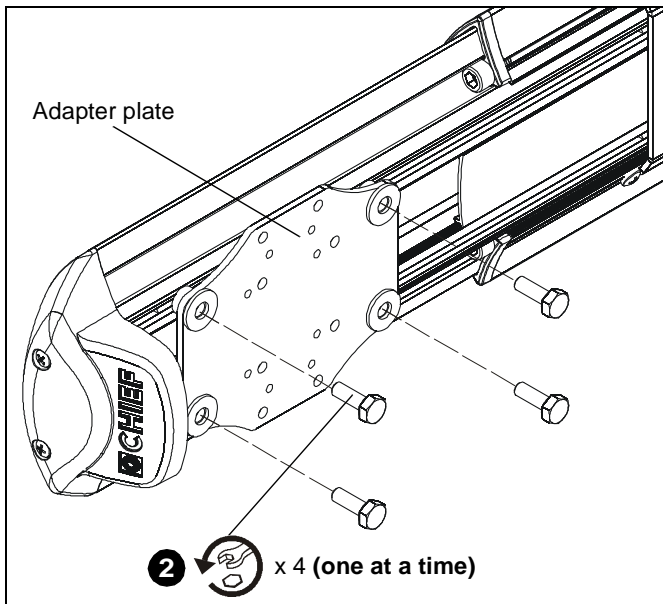

Figure 74
2. Remove one of four bolts from adapter plate. (See Figure 74)